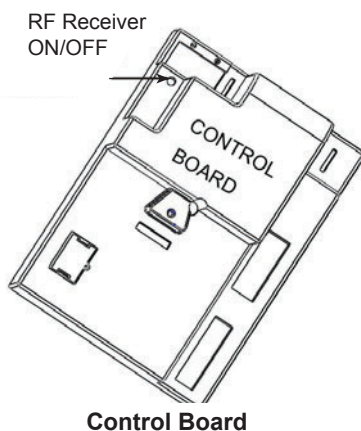

Figure 37
1. The RF receiver button on the control board in the fireplace must be in the on position before the learn function can begin. **Figure 37**. With the Command Center master switch in the ON position, use paper clip to depress the recessed button on Control Board, one beep for RF receiver ON or two beeps for RF receiver OFF